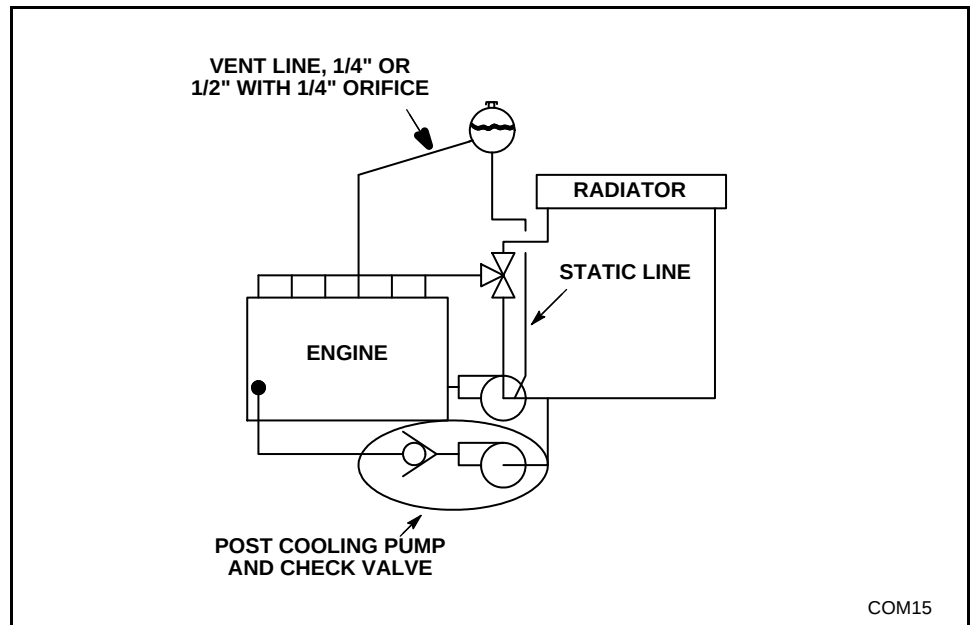

Figure 4-24 Post Cooling Pump
1. Install a post cooling pump as shown in Figure 4-24, and operate it for several minutes after shutdown. This post cooling pump prevents heat soak from fully opening the thermostat. This allows warm bypass water to blend with the cooler return water which slowly cools the engine and closes the thermostat.
Vent lines from the top water manifolds of an engine to the expansion tank are always recommended for removing trapped air and steam (see Figure 4-24). Trapped steam can be a problem on engines, especially using methods 2, 3, or 4 to prevent thermosiphoning. Failure to bleed off steam will cause a steam pocket